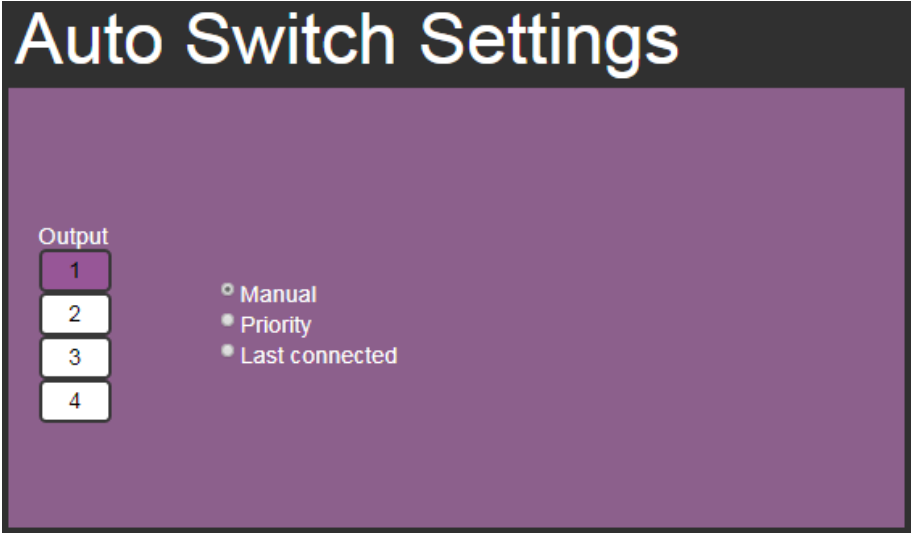

Figure 37: Auto Switch Settings Page
- In the Manual mode (see Figure 37), the outputs are switched manually to the selected output.